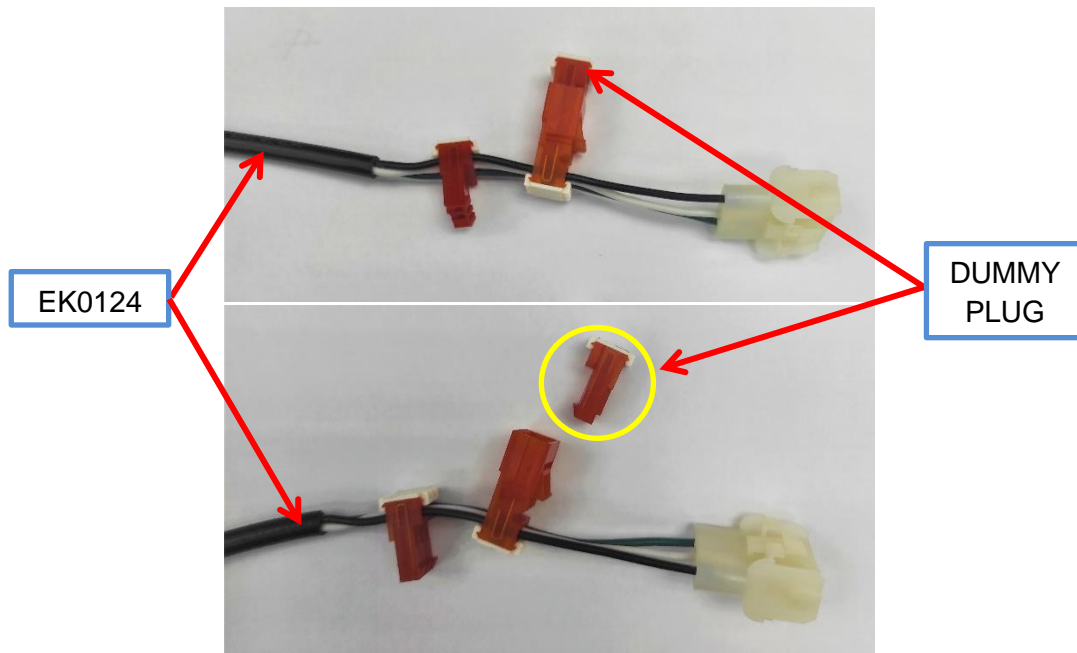

Fig 2.9a– Dummy plugs in EK0124 cable
5. Cable EK0124 has three connectors at one end and a single connector at the other end. EK0124 is supplied with a “dummy plug” for safety in some installations (see figure 2.9a). Unplug and discard the female dummy plug from the three-connector end of EK0124.